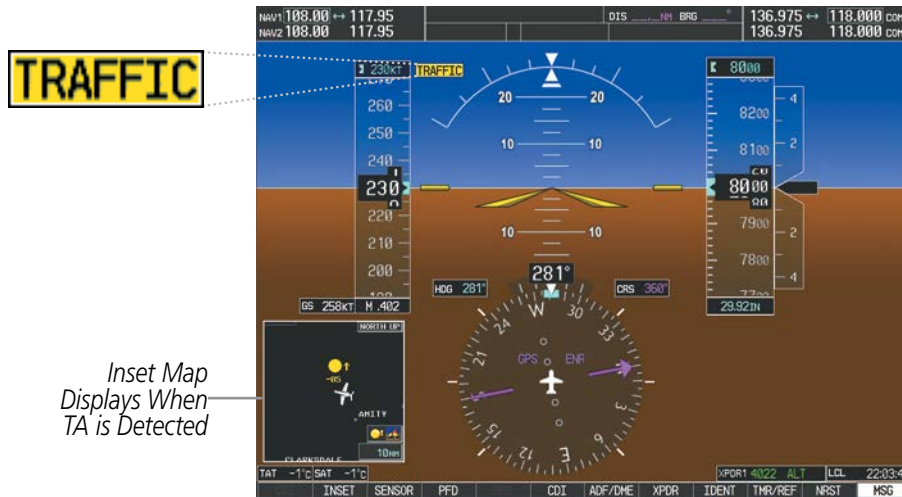

Figure 6-163 Traffic Annunciation (PFD)
- A ‘TRAFFIC’ Annunciation appears at the top right of the airspeed on the PFD, flashes for five seconds, and remains displayed until no TAs are detected in the area (Figure 6-163).